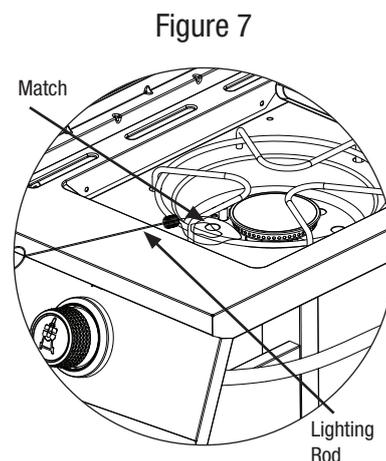

Figure 7
8. If igniter does not light burner, use a lit match secured with the Lighting Rod (included with grill) to light burners. Position the lit match near side of the burner (Figure 7).